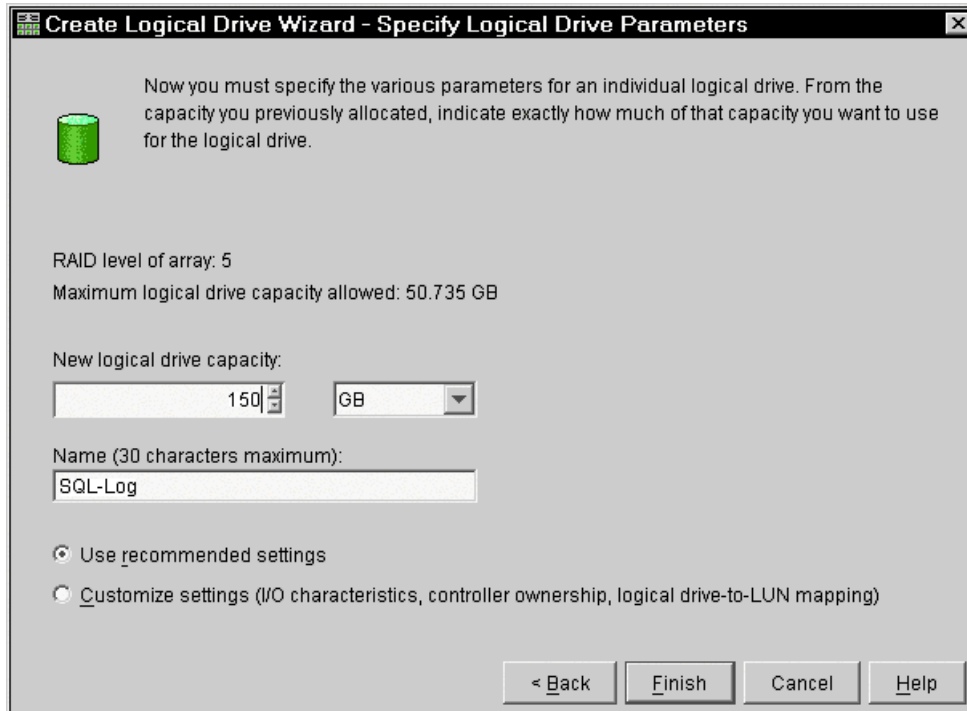

Figure 4-34 Logical drive parameters
4. Define the logical drive (Figure 4-34). By default, all available space in the array is configured as one logical drive.